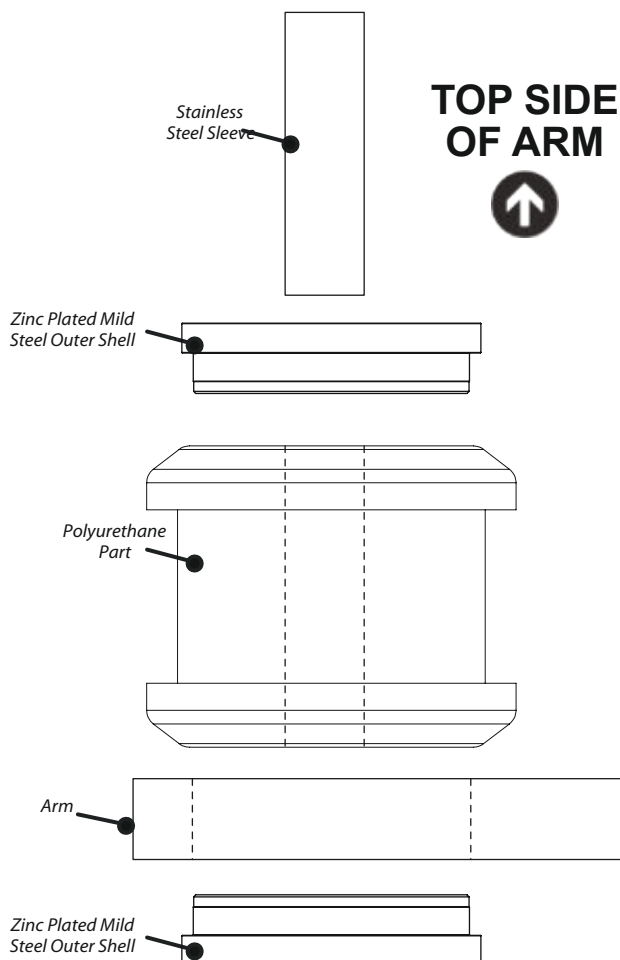

Figure 1
3. Press in the two zinc plated mild steel outer shells into the bore of the arm on either side so that the top lip sits on top of the arm, as shown in Figure 1.